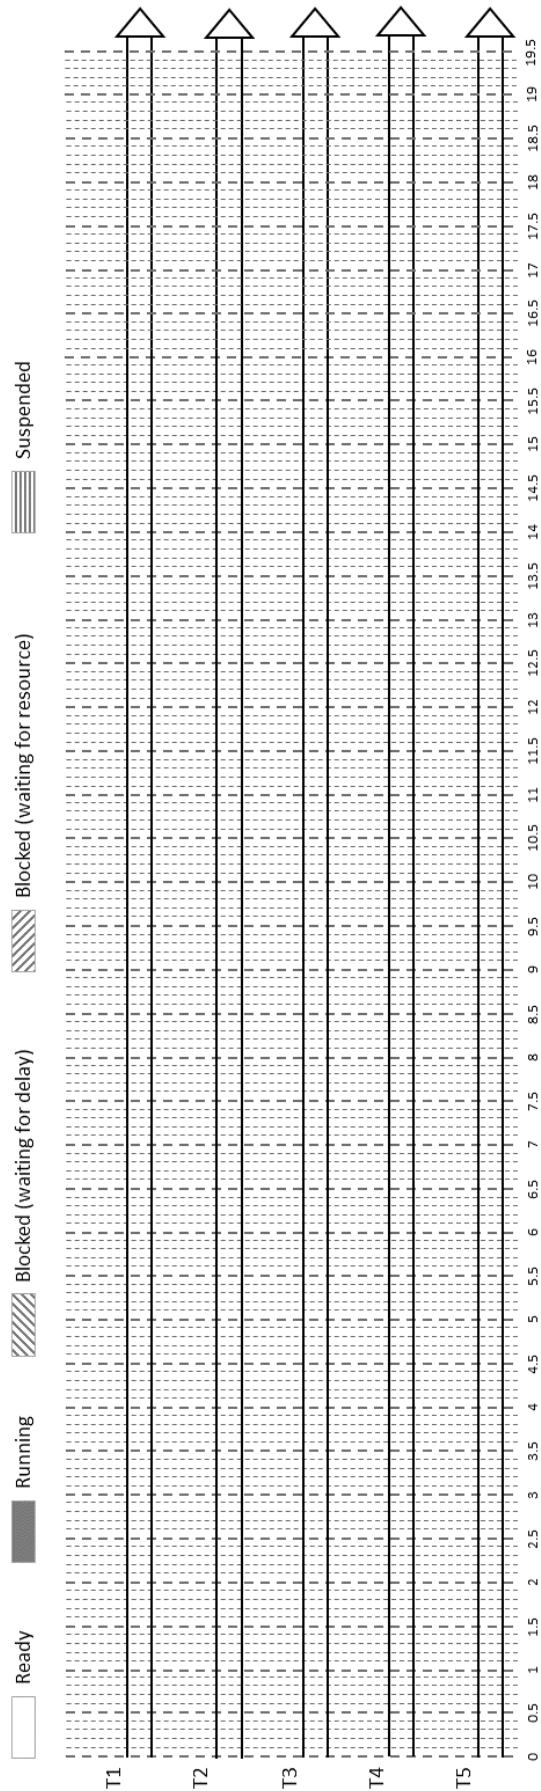

FIGURE 1.5 – Round Robin (RR) scheduling trace with slot times = 2.
- (c) With slot time = 2 and consider the following set of tasks that arrive at time 0ms. Complete the trace in the figure 1.5 and give the Average waiting time (AWT).
5. SRTF (Shortest Remaining Time First), the arrival times (AT) of the tasks being the following :  $AT(T_1) = 0$ ,  $AT(T_2) = 1$ ,  $AT(T_3) = 2$ ,  $AT(T_4) = 3$ ,  $AT(T_5) = 4$  (cf figure 1.6).